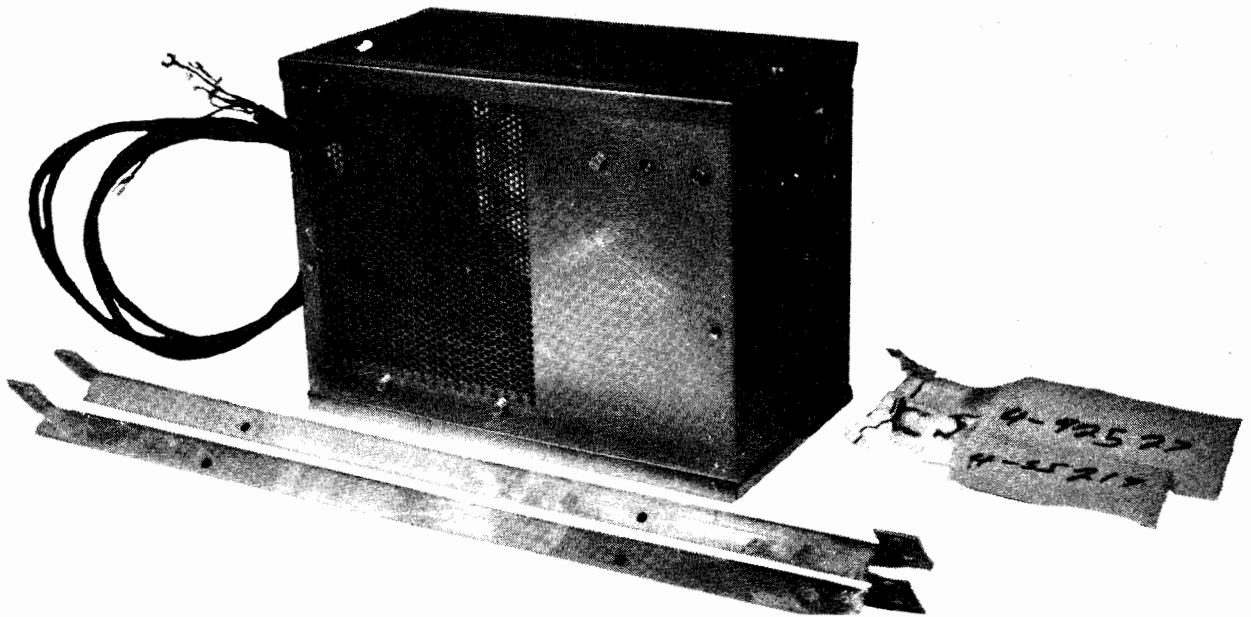

Figure 1 - ESA for Rack Mounting — Single Box Construction
1.01 Each electrical service assembly (ESA) provides an electrically shielded container for housing certain components which are used to suppress radio frequency (rfi) interference. Typical ESAs are illustrated in Figures 1 through 4.